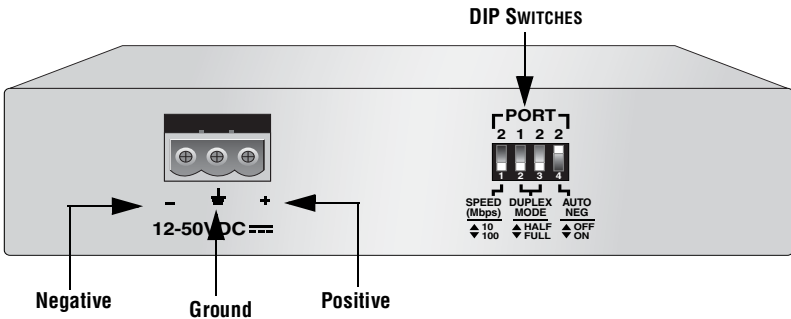

Figure 14 Negative, Ground, and Positive Symbols
2. On the rear side of the chassis is a 3-prong receptacle connector labeled 12-50VDC. Starting from the left side of the terminal block, identify the **negative**, **ground**, and **positive** terminals using either the diagram adjacent to the terminal block or the illustration shown in Figure 14.